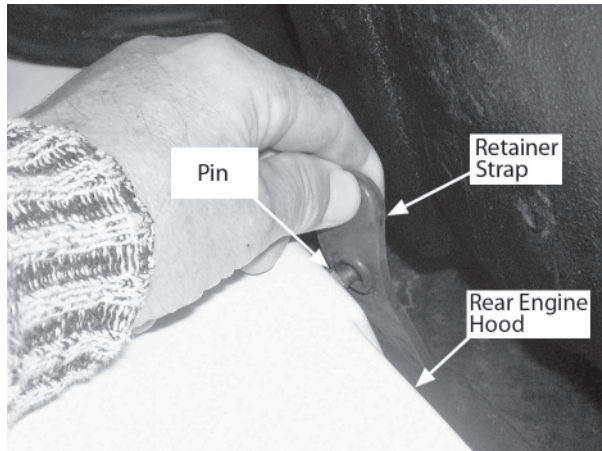

Figure 3-7
- Locate the rear engine cover retainer strap located behind the seat, just left of the center line of the seat. Refer to Figure 3-7.
- Grasp the upper end of the strap pull upward and forward to disengage the hood pin. Refer to Figure 3-7.